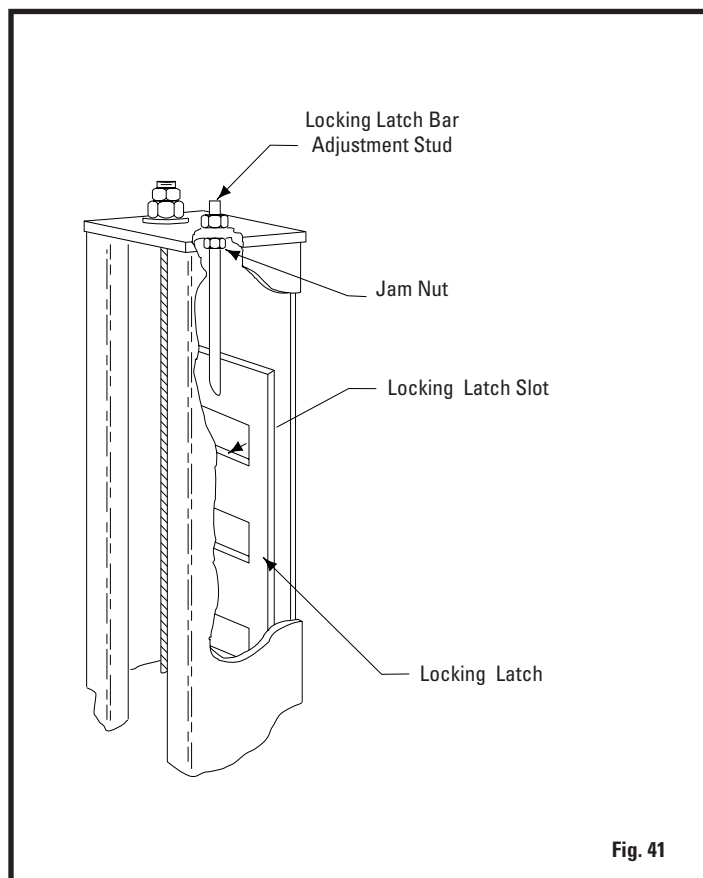

Fig. 41
- J. To complete the leveling procedures, lock each locking latch plate jam nut tightly against bottom of column top plate, Fig. 41. Also tighten down M6-50 bolt on front latch bar bases.